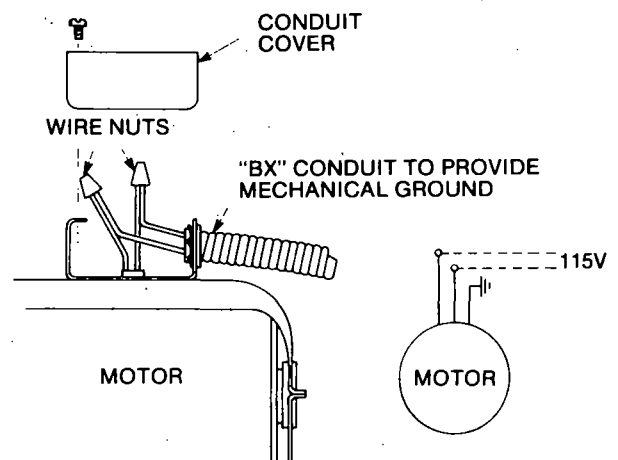

Figure 2a — Wiring Diagram for Models 1P899A thru 1P903A, 2P432, 2P433, 2P434, 2P609 & 2P610
7. Wiring: Refer to Figures 2a, b and c.